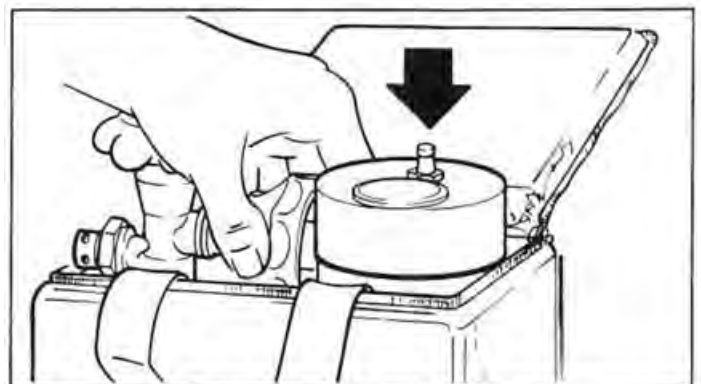

Figure 13. Reinstalling Assembly in Case.
7. Reinstall the mixer / cylinder assembly in its case as shown in Figure 13. Make sure the mixture pressure gauge is visible. The apparatus is now ready to use.